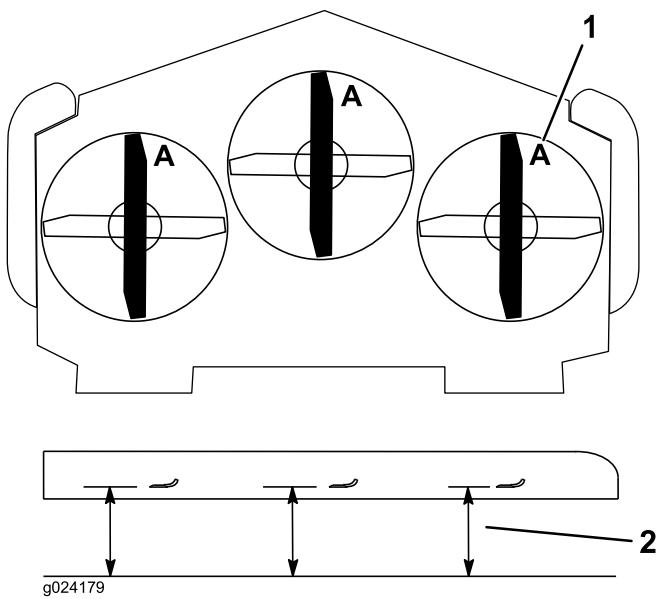

**Figure 87**
1. Inspect the cutting edges (Figure 87). If the edges are not sharp or have nicks, remove and sharpen the blades. Refer to Sharpening the Blades.
2. Inspect the blades, especially the curved area (Figure 87). If you notice any damage, wear, or a slot forming in this area (Figure 87), immediately install a new blade.